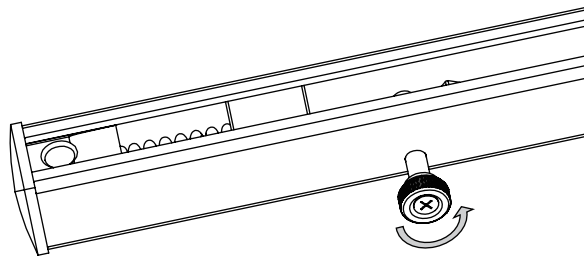

Figure 6
- g Turn the release knob counterclockwise 180° to verify that the hold-open function is disengaged. (Figure 6)